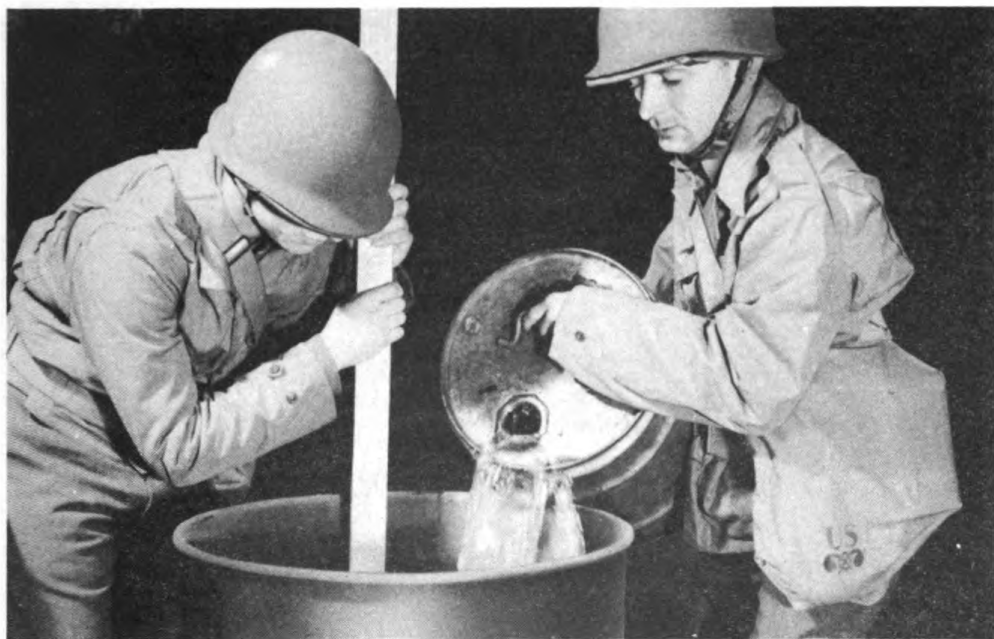

Fig. 109. Measuring fuel ingredients into mixing drum. (Paddle for measuring and stirring is improvised.)
(2) Above 90° F. Thickener in this temperature reacts very rapidly. It is easier to prepare batches of 20 gallons each, but any number of batches may be prepared in succession.
f. Mixing of thickener and fuel. Pour 20 gallons of fuel into the open end drum; use a pail or marked paddle as a measure (fig. 109). One man stirs fuel vigorously. Another takes a 5-1/4-pound can of thickener; splits it with a machete, bayonet, or ax; and pours thickener as rapidly as possible into fuel, breaking up by hand any large lumps of dry thickener which may be present. When mixing 40 gallons at a